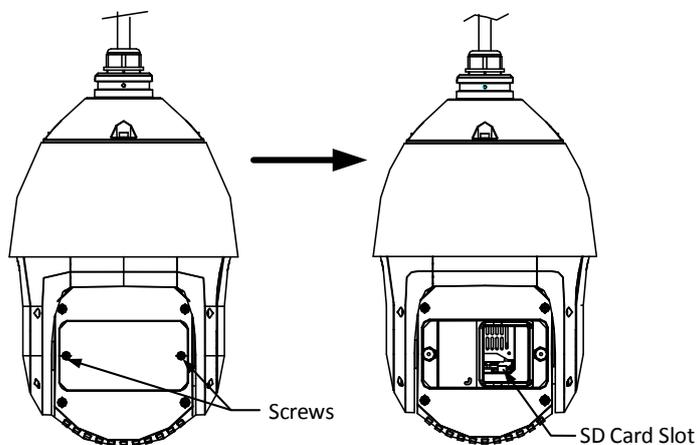

Figure 2-13 SD Card Slot
1. Remove the cover on the back of the speed dome as shown in Figure 2-13.